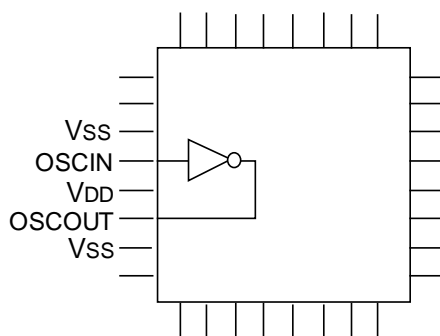

Figure 7-4 Critical Signal Pinout Example 2
- (d) Place the oscillator circuit input and output pins (OSCIN, OSCOUNT) close to each other and enclose them by the power supply pins ( $V_{DD}$  and  $V_{SS}$ ). Also, do not place the output pins synchronous to the oscillator circuit close to the output pins. (Figure 7-4)